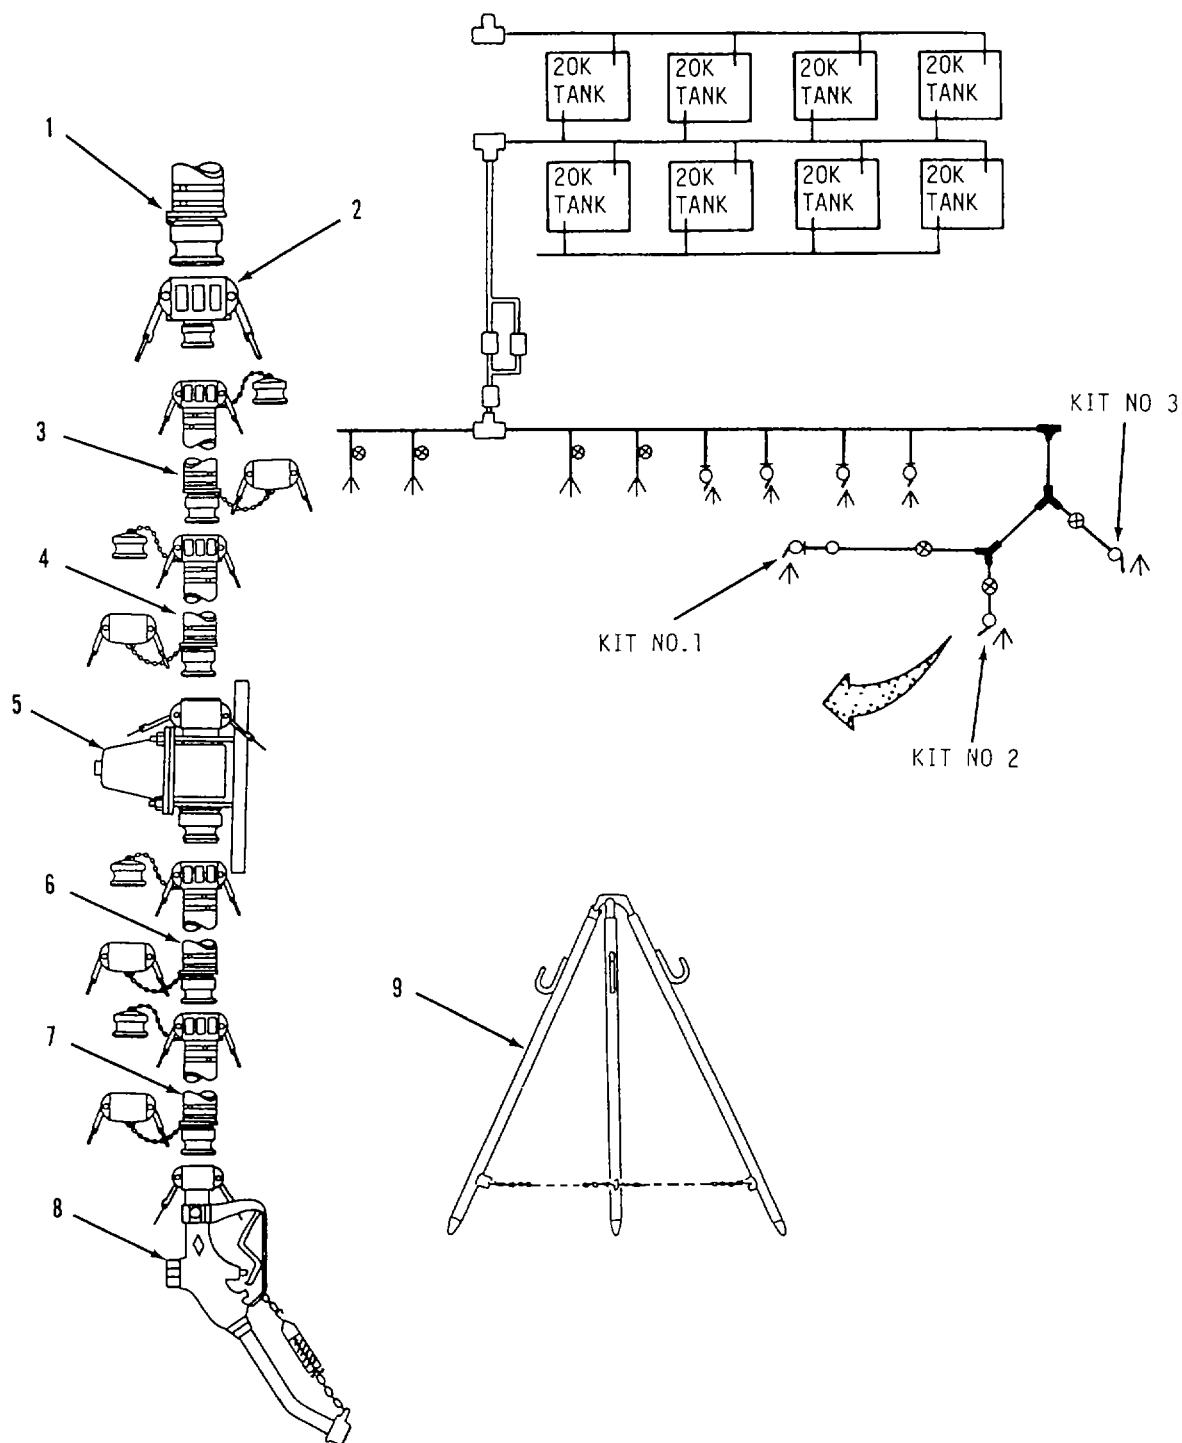

Figure 2-22. Hose and Nozzle Kit Assembly.
- o. Assemble Hose and Nozzle Kits. Refer to figure 2-22.